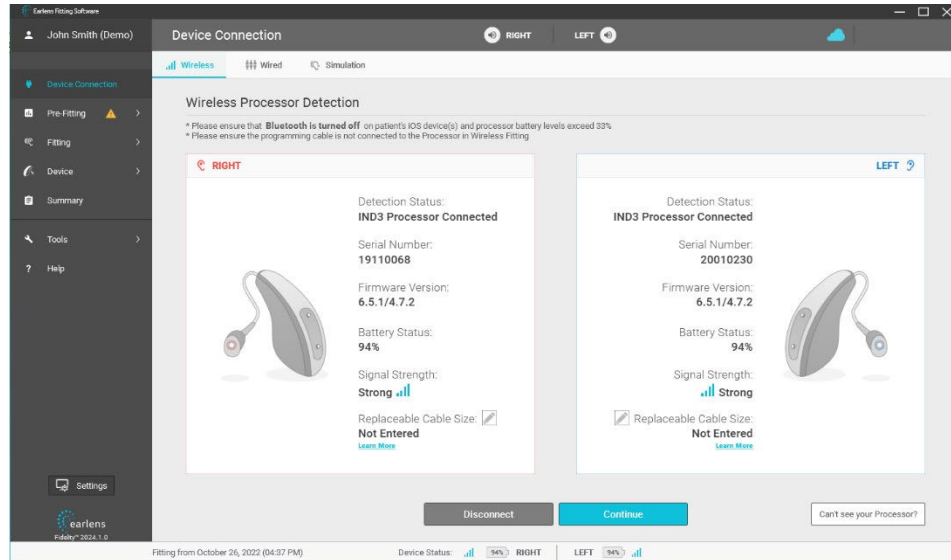

Figure 23. Device connection screen: details of connected processors
- a. Once the Processor(s) are connected, you will see details of the connected Processor(s) on the screen. Select “Continue” to begin the fitting session (Figure 23). You can also input replaceable cable size for future reference (optional feature).